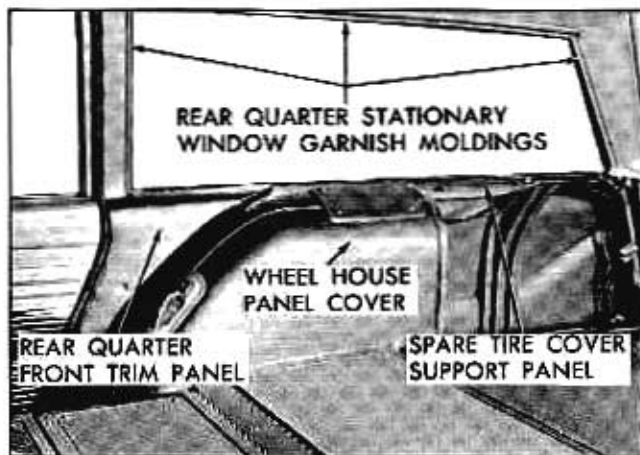

Fig. 3-13 Right Rear Quarter Trim— Spare Tire Cover Removed
2. Remove rear quarter front trim panels, rear quarter rear trim panel, rear quarter wheelhouse panel cover, spare tire cover and spare tire cover support panel (Fig. 3-13).
3. Remove rear quarter stationary window channel lower retainers (one required for right side, two required for left side). (Fig. 3-13).